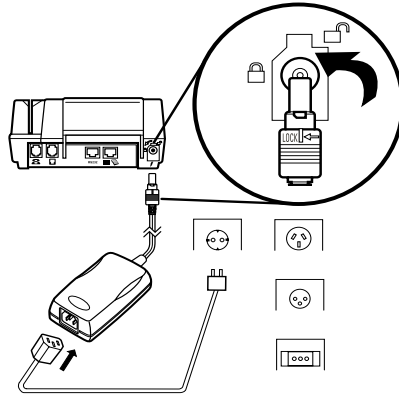

Figure 6 Omni 3350 Power Pack Connection
1. Insert the round barrel connector (Figure 6) into the power port (identified by the icon at right).